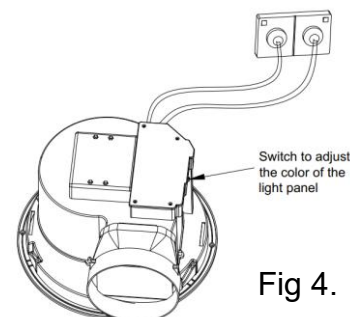

Fig 4.
13. **There is a switch to adjust the colour temperature on back of the fan panel. Choose the colour temperature according to your personal preference. CW is cool white, DL is daylight, and WW is warm white. (Fig 4)**